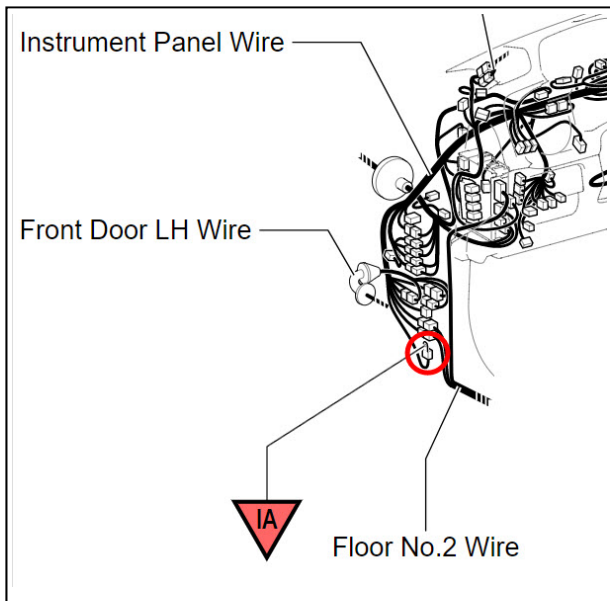

Figure 17F
- b. Find Instrument panel ground point IA on driver kick panel. Attach a YELLOW 12-10 AWG T-Tap to the factory ground point WHITE wire with BLACK TRACE on kick panel wall. Use pliers to ensure the T-Tap is snapped in correctly. Plug the BLACK wire from the Bed Light LED wire harness into the T-Tap. See Figures 17F, 17G & 17H.